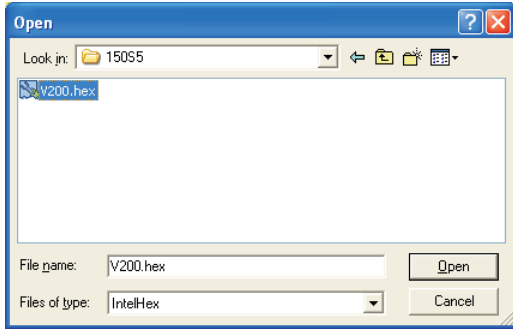

Fig. 8
- Press the Load hex then select the V200.hex as shown in Fig. 8.